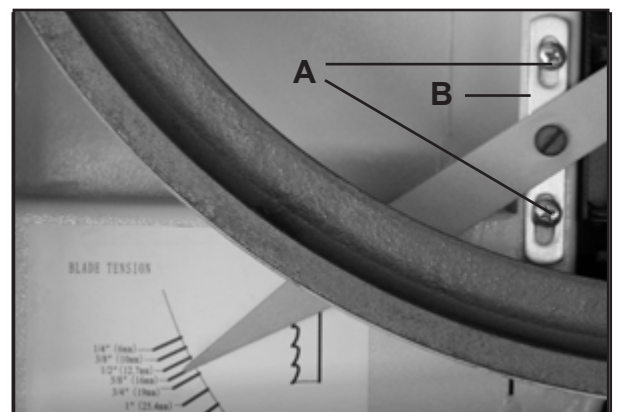

FIG. 17
The blade tension indicator can be adjusted for blades that are of different steel thicknesses or cut over/under length by different manufacturers. With moderate tension on the blade, loosen the two adjusting screws with a Phillips-head screw driver (FIG. 17, A). Move the blade indicator bracket up/down as needed (B) to adjust the indicator's position on the scale, and then re-tighten the two adjusting screws when the setting is correct.